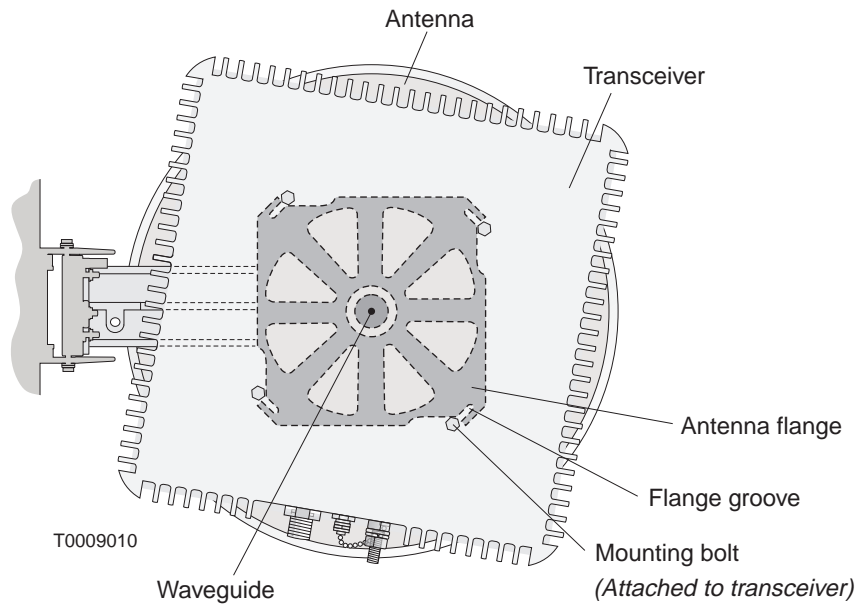

Figure 6-21 Aligning the transceiver mounting bolts
2. Position the transceiver so its four mounting bolts are aligned with the four grooves on the antenna flange, as shown in figure 6-21.